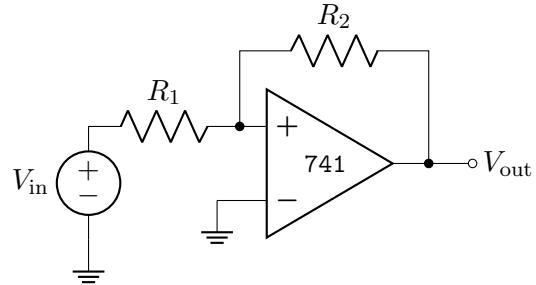

Figure 6: Op amp "latch" circuit
- Construct the latch circuit shown in Fig. 6 with  $R_1 = 1 \text{ k}\Omega$  and  $R_2 = 25 \text{ k}\Omega$ . (The circuit looks almost the same as the negative feedback amplifier, so pay close attention to the op amp input assignments.) Use the variable  $\pm 9 \text{ V}$  DC voltage supply for  $V_{\text{in}}$  (might be  $\pm 5 \text{ V}$  DC). Describe the behavior of  $V_{\text{out}}$  as you increase and decrease  $V_{\text{in}}$ . Determine the values of  $V_{\text{in}}$  at which the output changes states. A latch circuit "memorizes" the polarity of the last input signal (typically voltage pulses in real applications). Explain the role of resistor,  $R_2$ , in this circuit.